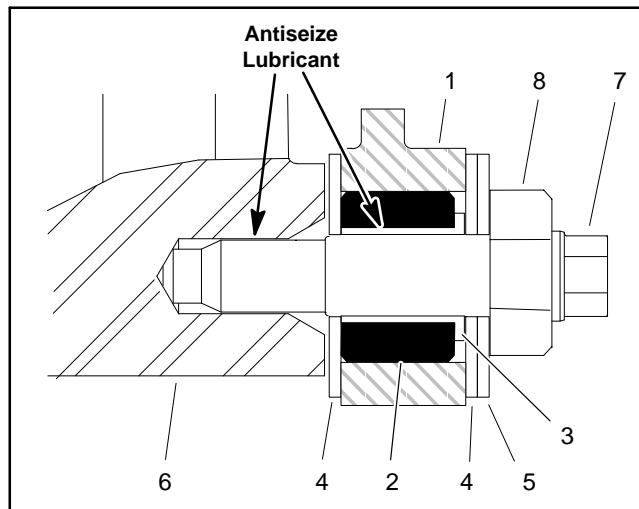

Figure 25
1. If rubber bushing was removed from either cutting unit side plate, install a new bushing. The bushing should be installed flush with the inside of the side plate (Fig. 25).
5. Position bedbar into cutting unit. Make sure that the top of each bedbar arm is between washer (item 4) and adjuster screw flange.
6. Position a plastic washer between bedbar and each cutting unit side plate (Fig. 25).